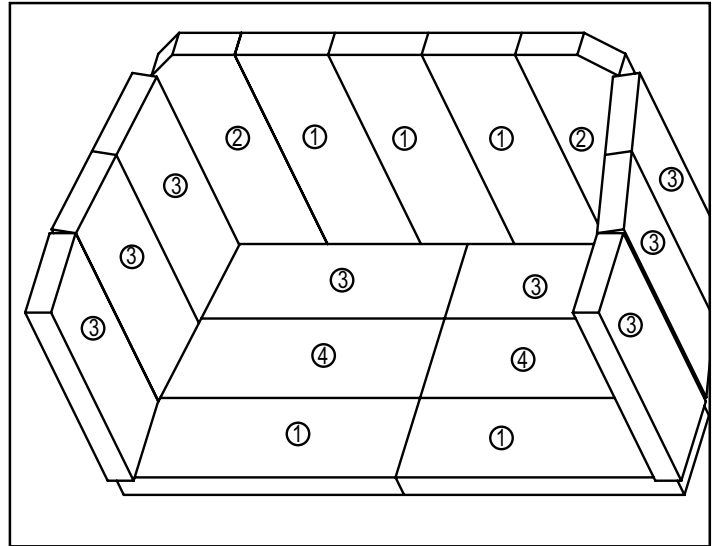

Figure 4.3 Fire Brick Configurations
1. Remove new brick set from box and lay out to diagram as shown in Figures 4.3 & 4.4.